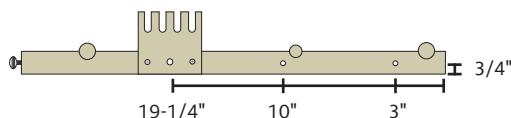

FIGURE 2: DRILLING HOLES (LEFT SIDE SHOWN)
- Disassemble your loom and mark hole placement with a pencil using the measurements in Figure 2. Your loom must have hole A. Decide whether you want hole B **and/or** hole C: when the stand is assembled in hole B, the loom sits in more of an upright position and in hole C it rests at more of an angle.